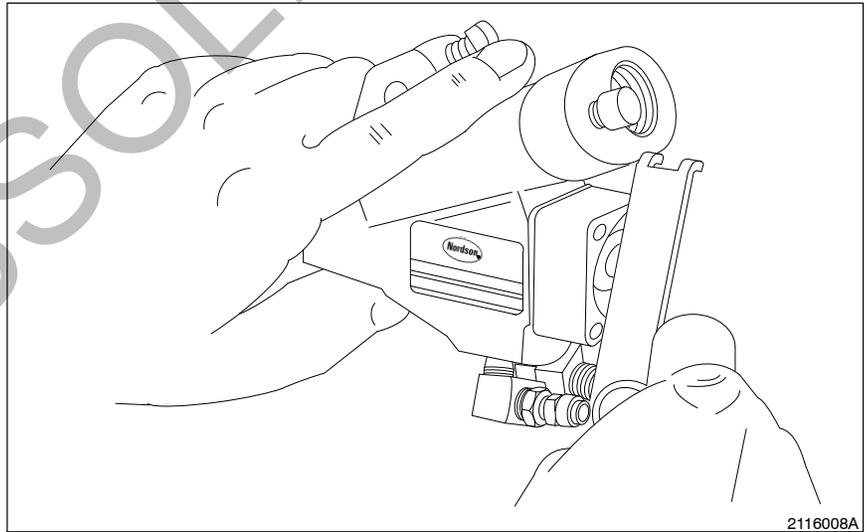

Fig. 9 Aligning the connecting rod for trigger adjustment
- a. See Figure 9. Place a straight edge, such as the side of the Nordson wrench, across the back of the air cylinder to check the alignment of the connecting rod.